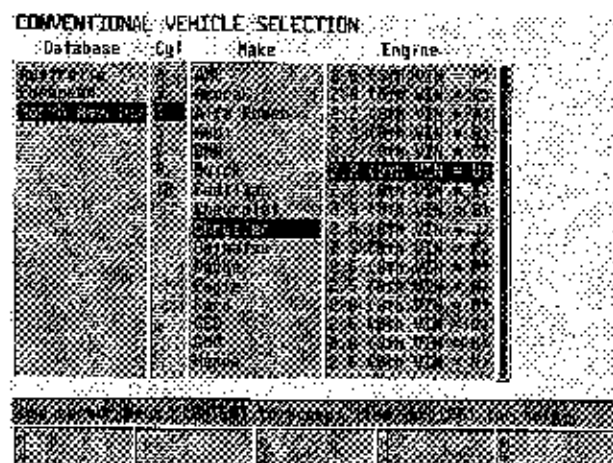

Figure 1-17
- a) At the main menu screen, press [F1]. The "CONVENTIONAL VEHICLE SELECTION" screen will appear (see Figure 1-17).